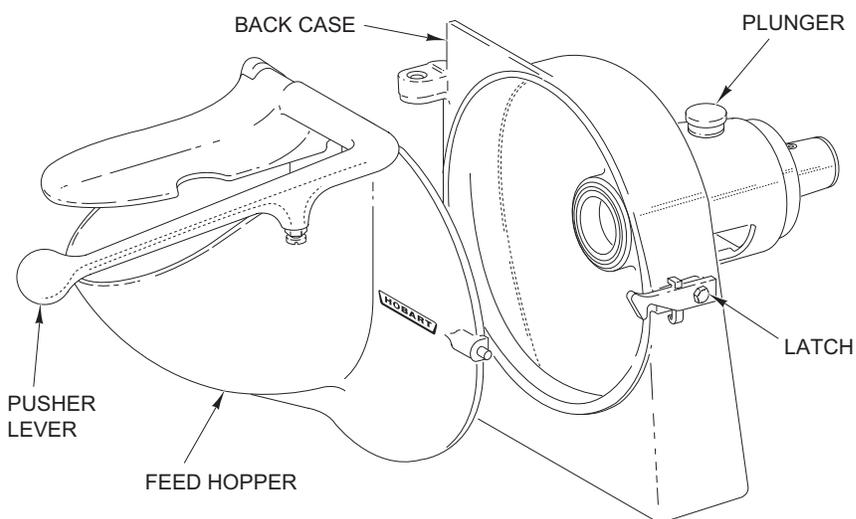
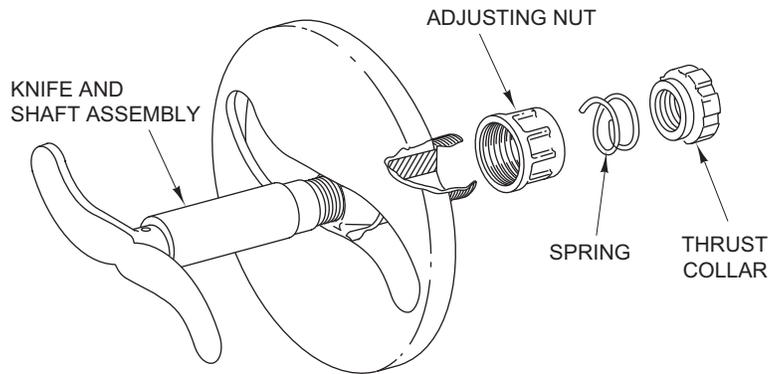

Fig. 1
Fig. 2
The back case (Fig. 1) mounts into the attachment hub of a mixer, chopper, food cutter, or power drive and is retained by a thumb screw of that machine. It is available with a #12 size hub.
The standard front is the feed hopper and pusher lever (Fig. 1) feed design. It hinges onto the back case and is held with a latch (Fig. 1). To remove front, lift latch, swing front open, and raise from hinge holes. The pusher lever is held in the feed hopper by a large pin. To remove pull the pin ring.
Open front, lift plunger (Fig. 1) and slide the adjustable slicer plate (Fig. 2) into operating position. Slicing thickness may be adjusted from approximately $\frac{1}{16}$ " to $\frac{5}{8}$ " by turning the adjusting nut (Fig. 2), without removing unit from its assembled position. The easy accessibility of this adjustment makes it possible to vary the slice thickness to suit the user's preference.
2. Attach back case (Fig. 1) of the slicer to attachment hub of companion machine and secure with the thumb screw.
4. Select accessory (such as adjustable slicer plate) to be used. Lift plunger (Fig. 1) and insert rotating unit into drive position. Release plunger.
3. Lift the plunger (Fig. 1) and withdraw the rotating unit.
5. All parts (case, hopper and rotating unit) may be immersed in warm soapy water for cleaning. Rinse in hot clear water and dry immediately. It is important that juices be cleaned from slicer before they can dry. When using the adjustable slicer unit, make sure it is cleaned frequently to assure easy thickness adjustment. Use a drop of tasteless oil on the adjustment threads after cleaning. Occasionally disassemble the slicer unit for a thorough cleaning. To do this it is necessary to unscrew the knurled thrust collar (Fig. 2), which has left-hand threads. The spring (Fig. 2) is then free for removal. Withdraw the knife and shaft assembly (Fig. 2). Unscrew the adjusting nut (Fig. 2) from the plate.
NOTICE After cleaning to prevent damage thrust bearing (Fig. 2) must be tightened until seated against shoulder on shaft (Fig. 2). Failure to properly reassemble can result in damage to knives, shaft and slicer plate.